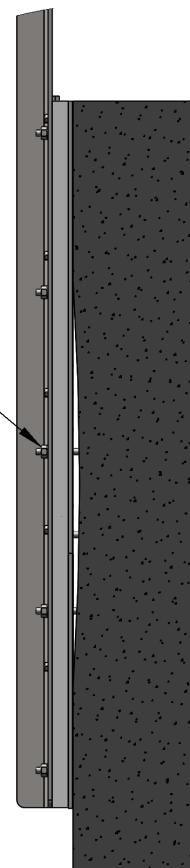

Figure 6
**CAUTION!:** If the weir gate is not completely in contact with the wall, do not over-tighten the anchor bolts. Over tightening may bend or distort the frame. If the wall flatness and levelness is according to the specified standards, the construction sealant will fill in the remaining void (see Figure 6).